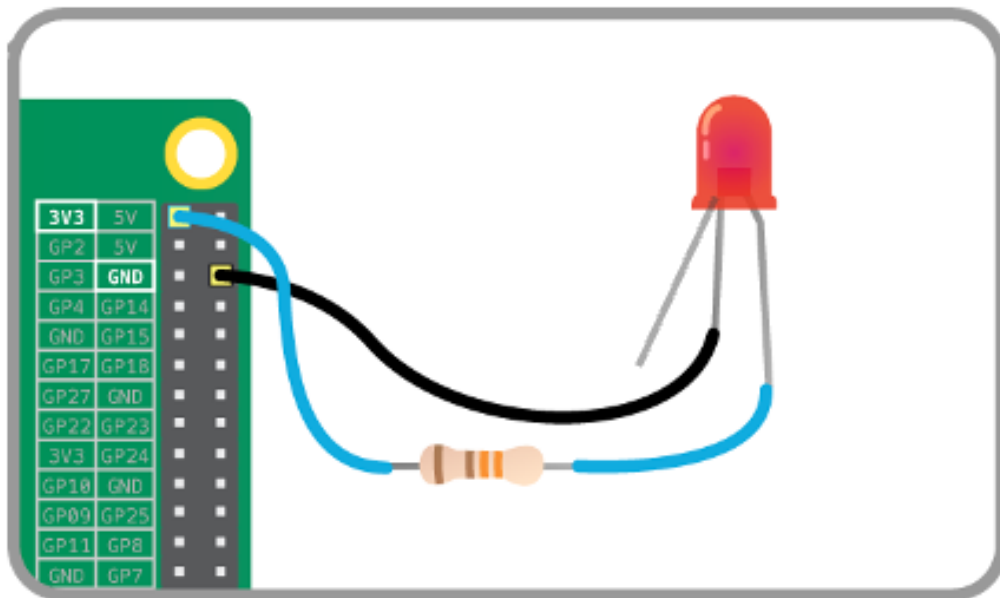

Figure 5: Lighting an LED using a Raspberry Pi.³
1. To test that the LED is working, try connecting the negative end (middle-long leg) of your LED into a ground pin (e.g. 6) and the positive end (one of the side legs) into a resistor and the resistor to the pin 1 on your Raspberry Pi which provides 3V3 power. Make sure to use a resistor (at least 50 Ω) in series with the positive end of your LED, otherwise, you may burn it. Once your setup is ready, the LED should light up. Since the LED is connected to a power source directly (3V3), it will stay lit up unless it is disconnected from power. Figure 5 shows an example setup without using a breadboard. **If you switch the connected positive leg, the color of the LED should change.**